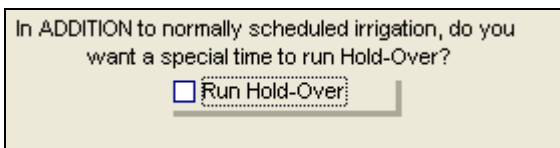

Figure 17.2.20
2. Click on the **Run Hold-Over** box to enable the Hold-Over Program (Figure 17.2.20).